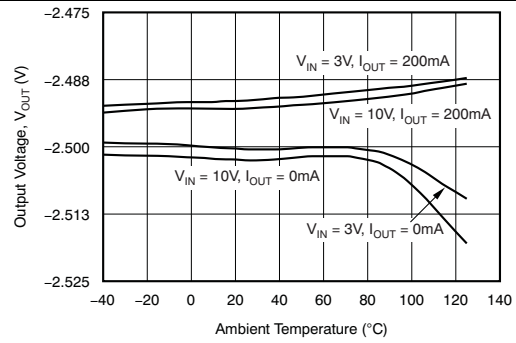

Figure 2. Output Voltage vs Ambient Temperature
- Removed *Output Voltage vs Output Current* graph (original Fig 2) 6